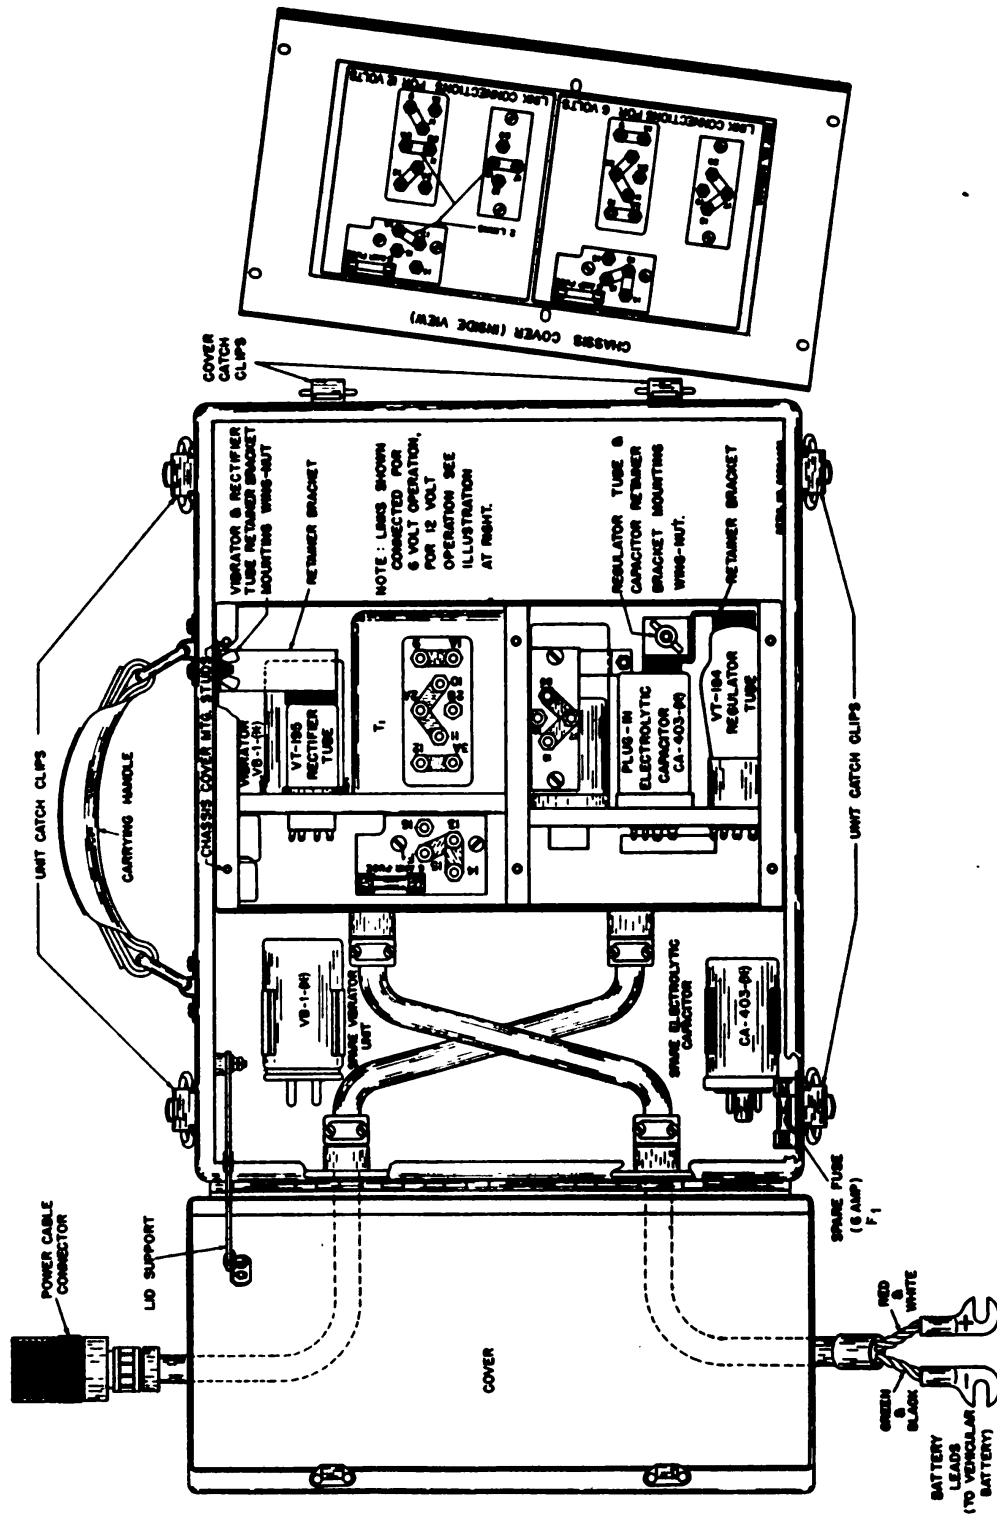

Figure 5. Plate Supply Unit PE-97-(*), Layout
For vehicular installation the connector and bondnut are used to bring the "A" battery lead from Plate Supply Unit PE-97-(*) through a metal wall. See Figure 5 for installation details.
supply is contained in a case with space provided for carrying Handset TS-13-(*); a coil of insulated Wire W-126, extension Cord CD-509; and also a spare Fuse FU-38, Vibrator VB-1-(*), and electrolytic Capacitor CA-403-(*). The vibrator and capacitor are of the plug-in type for quick and easy replacement. (See Figure 5.) (Issued only with Radio Sets SCR-510-A and SCR-510-B.)
The inside cover of the power pack of Plate Supply Unit PE-97-(*), has a label which shows the correct change-over link connections that are required to adapt the unit for operation from either 6-volt or 12-volt vehicular battery. (See Figure 5.)
(1) Open Plate Supply Unit PE-97-(*), unscrew the six knurled nuts and remove the power pack cover. Figure 5 shows an interior view of the case. Check to see that Vibrator VB-1-(*), rectifier Tube VT-195, voltage regulator Tube VT-184, electrolytic Capacitor CA-403-(*), and Fuse FU-38, are properly installed in their respective receptacles. Also make sure that spare Vibrator VB-1-(*), electrolytic Capacitor CA-403-(*), and Fuse FU-38, are, likewise, in their respective clips.
MAKE SURE THAT THE VOLTAGE CHANGE-OVER LINKS ARE SET FOR THE VOLTAGE OF THE VEHICULAR BATTERY. If a 12-volt vehicular battery is used with a power unit with links set for 6-volts, damage is sure to result. The correct position is shown on the label on the power pack cover. Place Handset TS-13-(*) in one of the storage compartments of Plate Supply Unit PE-97-(*), located at each end of the case as shown in Figure 5.
Turn the meter control switch to PLATE, press the push-to-talk switch, and read the panel meter. If it reads less than 2 (the luminous spot), it indicates a weak storage battery, or trouble in Plate Supply Unit PE-97-(*). Zero plate voltage may mean either a defective fuse, electrolytic Capacitor CA-403-(*), or Vibrator VB-1-(*). A spare of each of these is carried in the case of Plate Supply Unit PE-97-(*). To replace any of these, refer to Figure 5. Remove the cover of the vibrator pack to replace any of the above three parts. Replace the spare parts removed from the unit with new spares at the first opportunity. Turn the switch to FIL and read the meter. It should not be less than 2 (the luminous spot). A lower reading indicates low storage battery voltage, or failure of the vehicular battery.